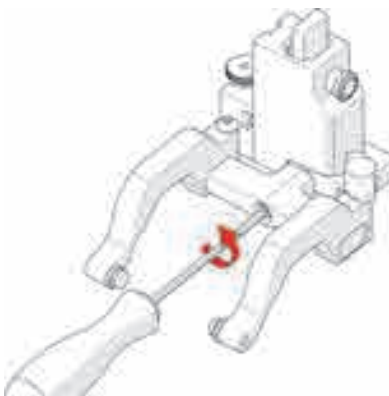

Figure 4-86 Remove yoke
1. Using the supplied 3 mm driver, unscrew the yoke (see Figure 4-86 on page 156).